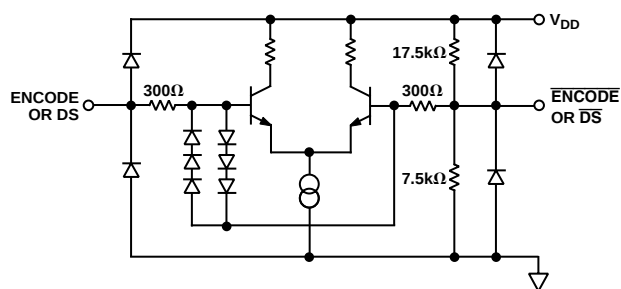

Figure 5. Equivalent ENCODE and Data Select Input Circuit
³t_V and t_{PD} are measured from the threshold crossing of the ENCODE input to valid TTL levels of the digital outputs. The output ac load during test is 5 pF (Refer to equivalent circuits Figures 5 and 6).
ENCODE and Data Select (DS) can be driven differentially or single-ended. For single-ended operation, the complement inputs ($\overline{\text{ENCODE}}$, $\overline{\text{DS}}$) are internally biased to $V_{\text{DD}}/3$ (~1.5 V) by a high impedance on-chip resistor divider (Figure 5), but they may be externally driven to establish an alternate threshold if desired. A 0.1 μF decoupling capacitor to ground is sufficient to maintain a threshold appropriate for TTL or CMOS logic.
Note the 6-diode clock input protection circuitry in Figure 5. This limits the differential input voltage to $\sim \pm 2.1$ V. When the diodes turn on, current is limited by the $300\ \Omega$ series resistor. Exceeding 2.1 V across the differential inputs will have no impact on the performance of the converter, but be aware of the clock signal distortion that may be produced by the nonlinear impedance at the converter.